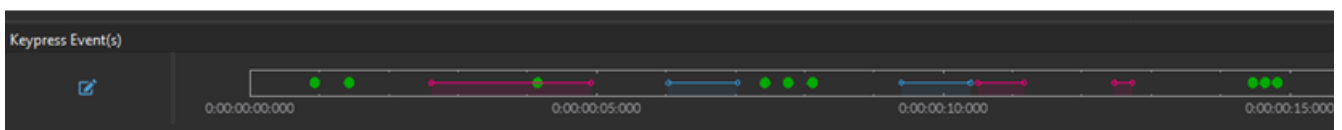

Figure 3.49: Channel(s) configuration window, KeyPress Event(s)
The following are the configurable parameters of a **KeyPress Event**, per Fig. 3.49:
6. The **Shortcut Key(s)** can be any keyboard key, including space bar, enter, backspace, any letters, number and special characters (\*, !, ? etc.). To specify the key, click inside the *Shortcut Key(s)* cell, then press the keyboard key of choice. If a key was properly set, it will appear in the *Shortcut Key(s)* cell (as in Fig. 3.49, column 6).